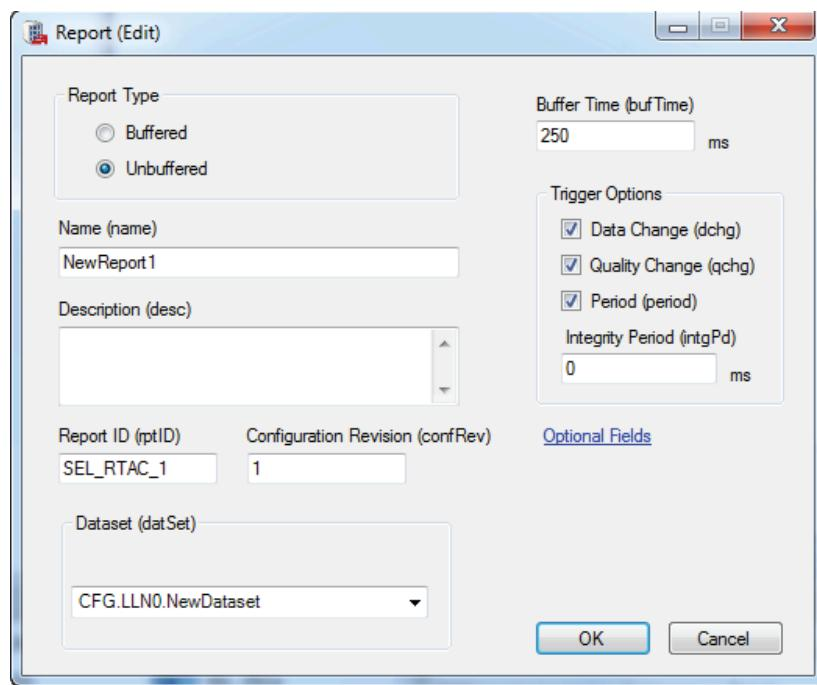

Figure 2.55 Configure Reports
Step 10. Click on **Reports** and configure as needed. Configuration includes specifying if the report is buffered or unbuffered, which dataset to use, and other configurations related to triggers and buffer times. See *Figure 2.55* for options.